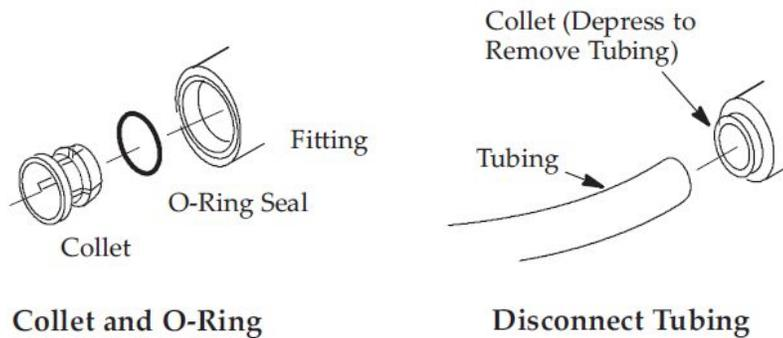

Figure 8
- Push the collet inward with a supplied Quick connect fitting removal tool. See Figure 8.
- Continue holding collet inward while pulling the tubing. See Figure 8.